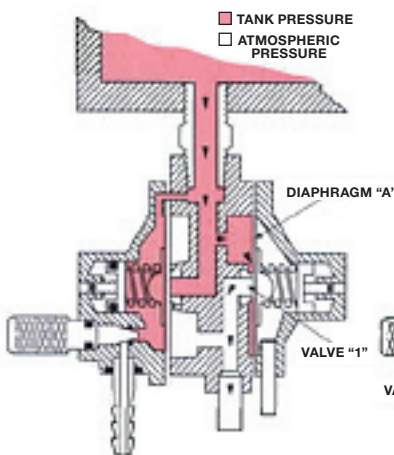

FIGURE 2
2. When the vessel pressure exceeds the spring setting, a force is exerted on diaphragm "A", overcoming the spring load and lifting valve seat "1". This allows pressure to escape to atmosphere via valve "1" as shown in Figure 2.